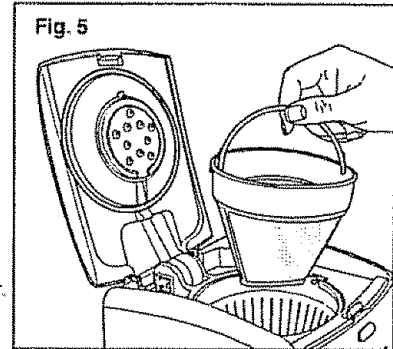

Fig. 5
- 3 Place either the permanent gold-tone filter or a size 1 X 4 paper filter into the brew basket (see Fig 5)